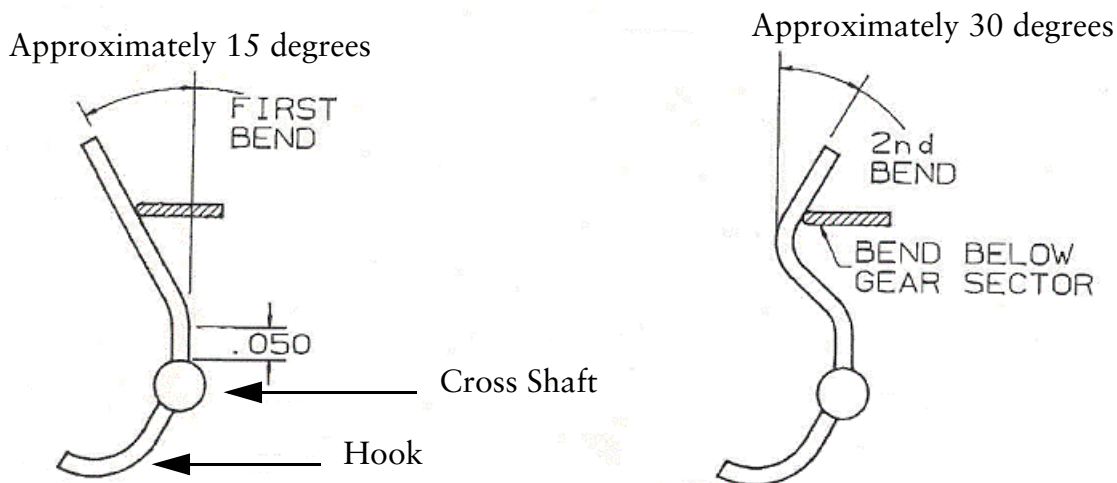

Figure 3-2. S&K pin adjustment if reading is high at 250 mmHg.
24. Move the hook away from the diaphragm (approximately 15 degrees), by pushing on the sector gear. While maintaining this position, lift the tool up from cross shaft approximately 1/16 inch and bend the pin back approximately 15 degrees. See Figure 3-2. Lift the calibration tool up to the point where the pin makes contact with the gear sector and bend the pin up, approximately 30 degrees.